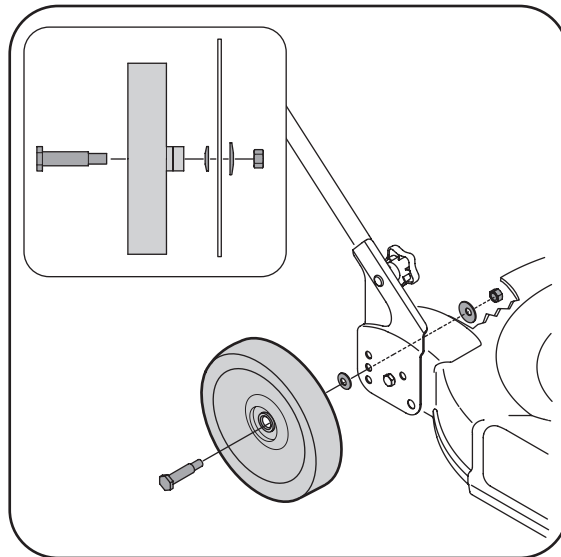

Figure 3-6
6. Install wheels as follows in Figure 3-6:
- a. Using hardware from hardware pack, secure the wheel to the deck as shown in Figure 3-6. The small bell washer should be installed with the crown side facing the wheel.